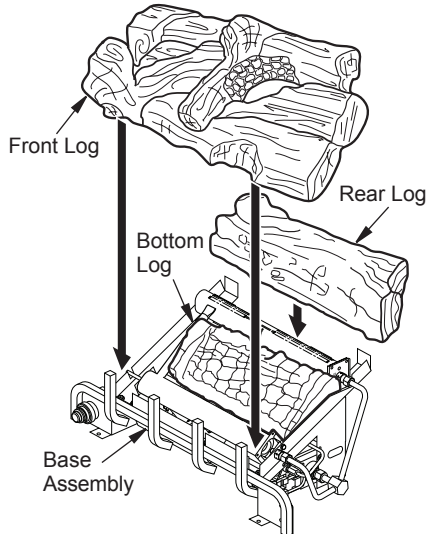

Figure 18 - Installing HRB Model Log Sets
1. Place bottom log in center of base assembly as shown in Figure 18.
2. Rest rear log in back corner sections of base assembly as shown in Figure 18. Make sure log is completely vertical and not leaning in toward burner where the flame will touch the log.
3. Position front log as shown in Figure 18, making sure the grooves in the bottom of the log fit over the grate prongs.